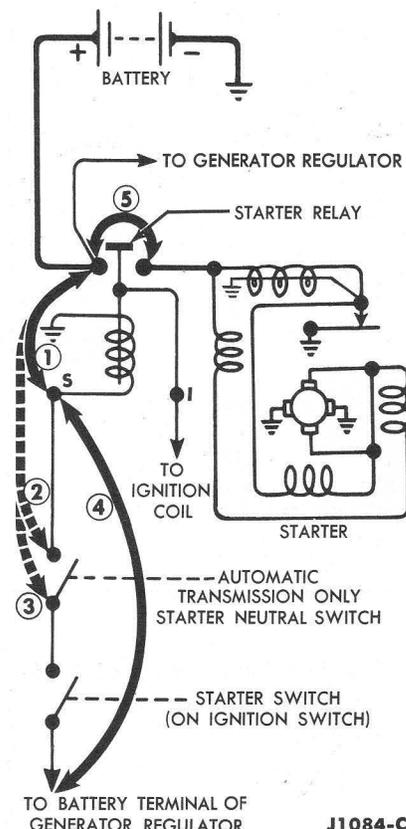

FIG. 2—Starting Circuit Test
2. With a fully charged battery, operate the starter to crank the engine. If the engine will not crank and the relay does not click, connect a jumper lead from the battery terminal of the relay to the starter switch terminal of the relay (Fig. 2, connection ①). If the engine does not crank, the starter relay is probably defective.
3. On cars with an automatic transmission, if the engine cranks in Step 2, connect a jumper lead from the battery terminal of the relay to the relay side of the neutral switch (Fig. 2, connection ②). If the engine does not crank, the wire or a connection between the neutral switch and the relay is loose or broken.
4. On cars with an automatic transmission, if the engine cranks in Step 3, connect the jumper lead from the battery terminal of the relay to the ignition switch side of the neutral switch (Fig. 2, connection ③). If the engine does not crank, the neutral switch is out of adjustment or defective.
5. If the engine cranks in the preceding steps, connect the jumper lead from the starter switch terminal of the relay to the battery terminal (yellow wire) on the generator regulator (Fig. 2, connection ④). Turn the ignition switch to the start position. If the engine does not crank, the wire from the battery terminal of the relay to the generator regulator is loose or broken. If the engine does crank, there are three possible defects:
If the relay clicks when the ignition switch is operated, connect a heavy jumper from the relay battery terminal to the relay starter motor terminal (Fig. 2, connection ⑤). If the engine cranks, replace the relay. If the engine does not crank, observe the spark when connecting and disconnecting the jumper. If there is a heavy spark, see Check Engine and Starter Drive below. If the spark is weak or if there is no spark at all, proceed as follows: